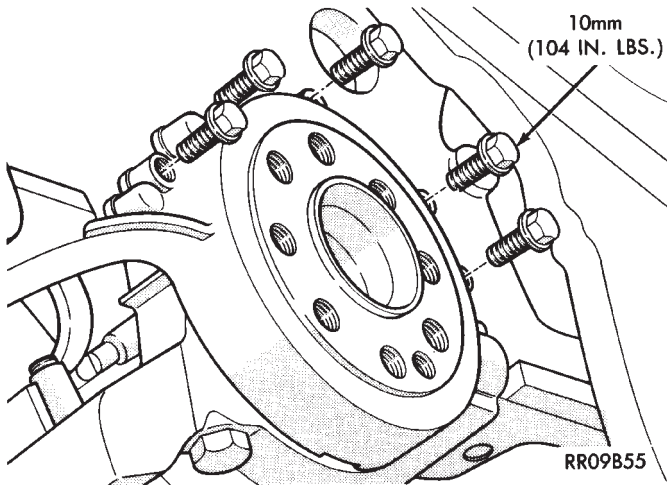

Fig. 3 Rear Seal Assembly
- (2) Remove rear oil seal retainer and seal as assembly (Fig. 3).
- (3) Release monoblock main bearing cap bolts evenly. Remove lower bearing shells and identify for reassembly.